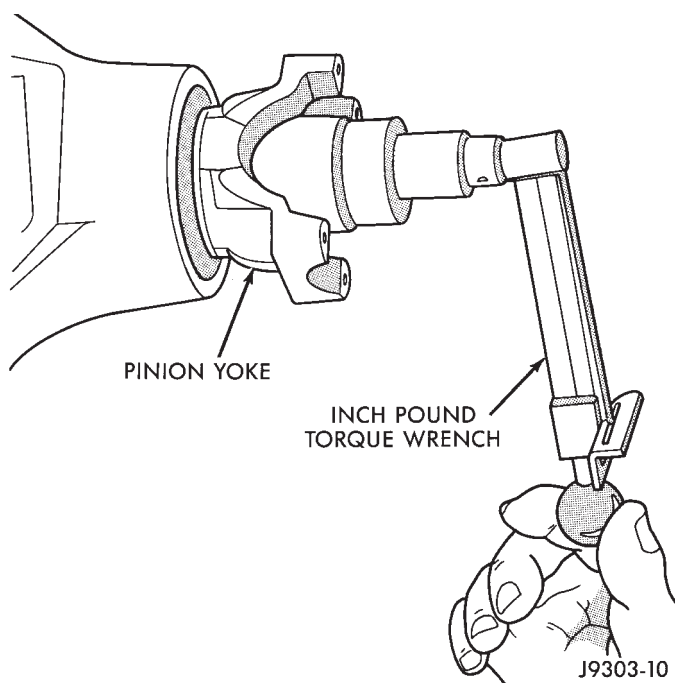

Fig. 58 Check Pinion Gear Torque
(9) Check bearing preload torque with an inch pound torque wrench (Fig. 58). The torque necessary to rotate the pinion gear should be;